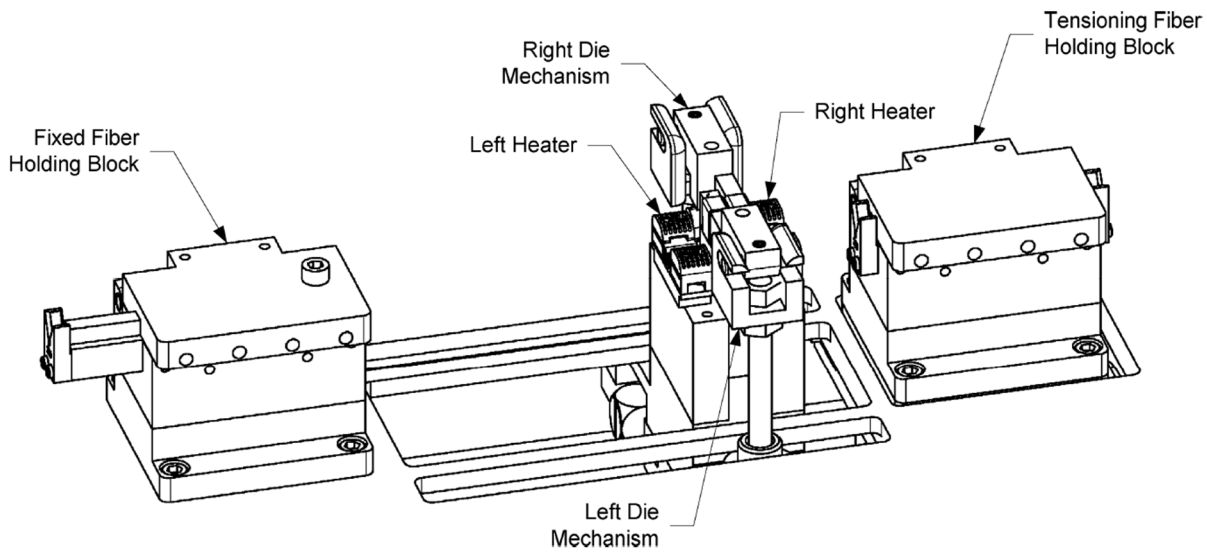

Figure 4 Recoat and Proof Test Components
1. If the Fiber Holding Block (FHB) tops are closed, open the FHB tops (see Figure 4). The head will move to the start position and vacuum will be applied to the V-grooves to aid in loading the fibers.